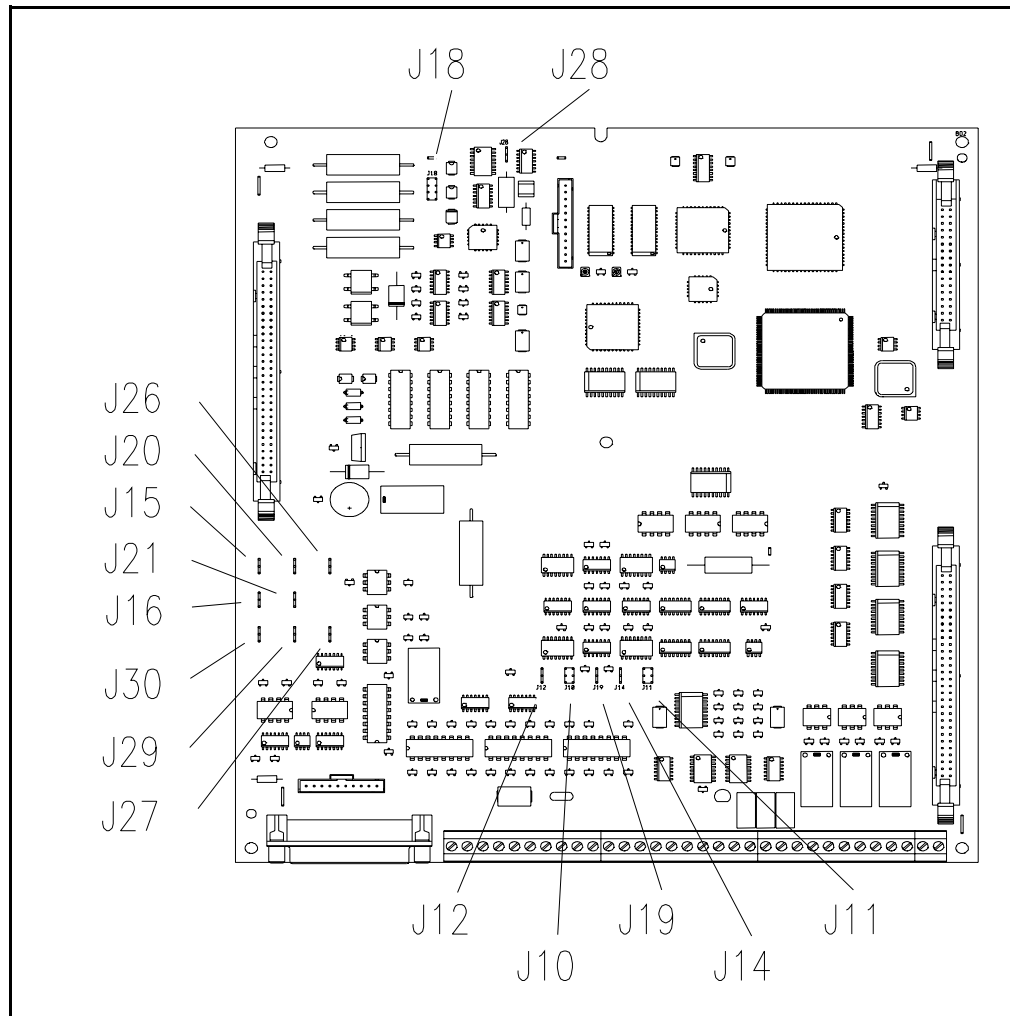

Figure 3.3 – Regulator Board Jumpers
- Step 3. The jumpers are located on the Regulator board. See figure 3.3 for jumper locations.